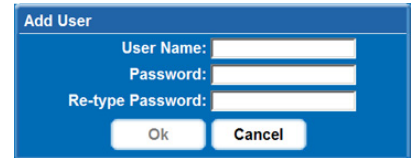

FIGURE 4-11 ADD USER WINDOW
1. Click **Add User** to open the **Add User** window. See *Figure 4-11*.